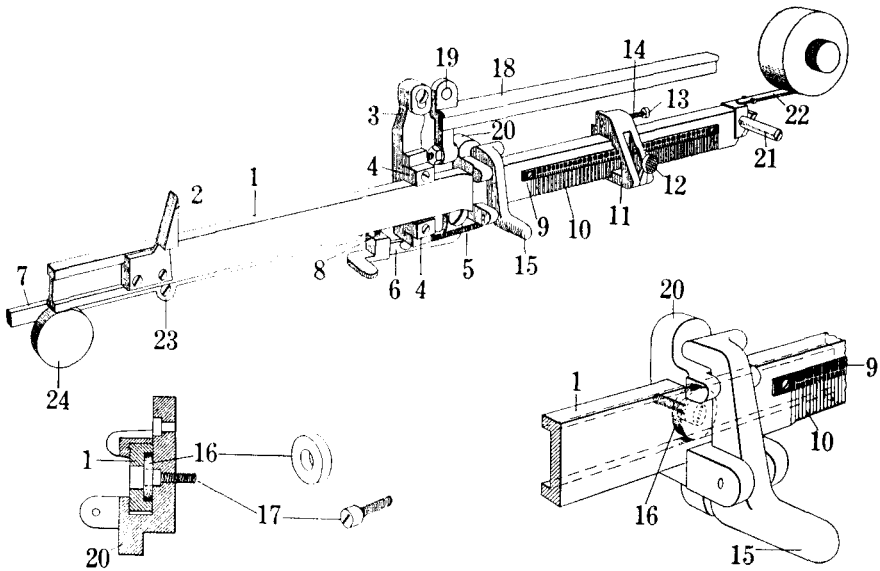

FIG. 1-7. View of the assembler slide and related parts.
**M**OUNTED ON THE face plate, as shown in Fig. 1-7, is the assembler slide. The slide serves as a yielding support for the line of matrices as they are being forced into the assembling elevator by the star wheel. It serves also to indicate to the operator when the composed line has been filled to a point previously determined upon by the setting on the slide of a block known as the assembler slide clamp.
Referring to Fig. 1-7, the two brake blocks 4 should have the corners sharp and square where they come in contact with the assembler slide to prevent it from slipping back when the line is being assembled. It must grip tightly enough to overcome the pull of the return spring; otherwise the slide will "chatter." The blocks are made so that when one corner is worn they may be taken off and turned to bring any one of the edges into operating position.